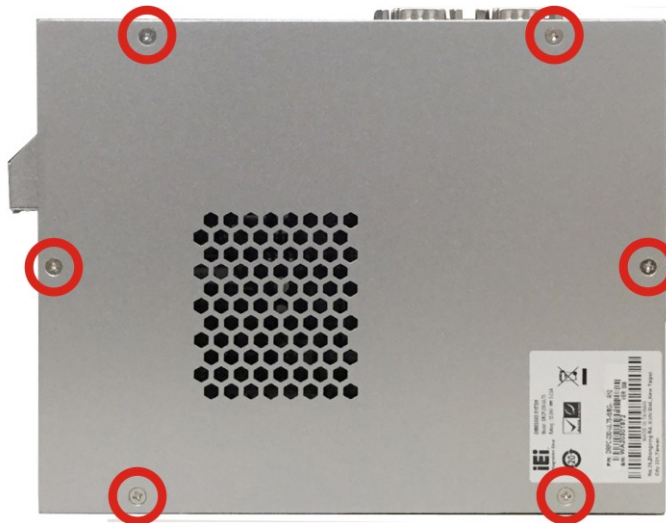

Figure 3-1: Internal Access Panel Retention Screws
Step 1: Remove the six retention screws indicated in **Figure 3-1**.